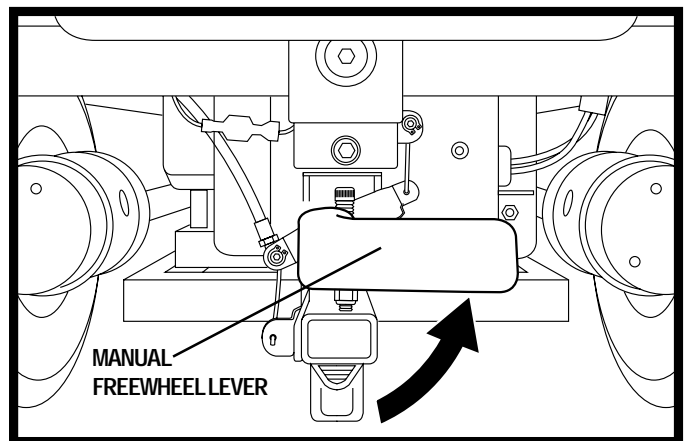

Figure 9. Drive Mode (Drive Engaged)
2. Rotate the manual freewheel lever counterclockwise for drive mode (drive motors engaged.) See figure 9.